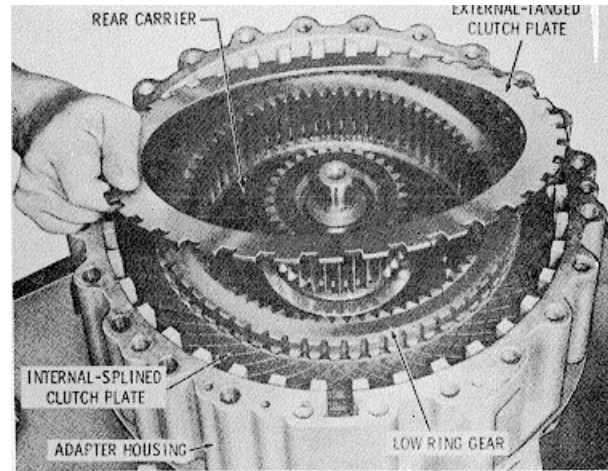

Fig. 7-18. Installing low clutch plates and ring gear
(4) Install the adapter housing gasket onto the adapter housing, aligning the holes in the gasket with those in the housing. Retain the gasket with oil-soluble grease.
(5) Grasp the assembled adapter housing, ring gear and clutch plates, invert the assembly and install it onto the rear of the transmission housing as follows.
(6) Align the adapter housing dowel pins with proper holes in the transmission housing. Lower the adapter housing until the internal teeth of the low ring gear begin to mesh with splines on the rear planetary carrier hub. Support the adapter housing while meshing the low ring gear by tapping with a soft mallet. When mesh is complete, seat the adapter housing.
(7) Install the three remaining low clutch plates (laid aside in (1), above). Install the plates in external-tang, internal spline, external-tang sequence (fig. 7-18).